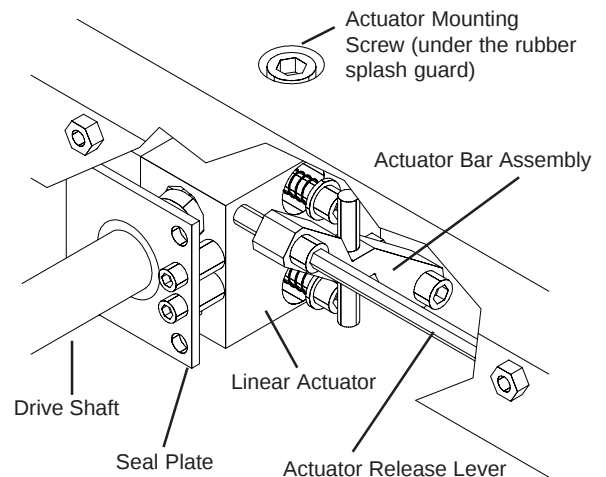

FIG. 33
- A. Crank the carriage forward further until you expose the actuator mounting screw (FIG. 33) on the top side of the carriage base. Remove the screw, to disconnect the actuator from the carriage.